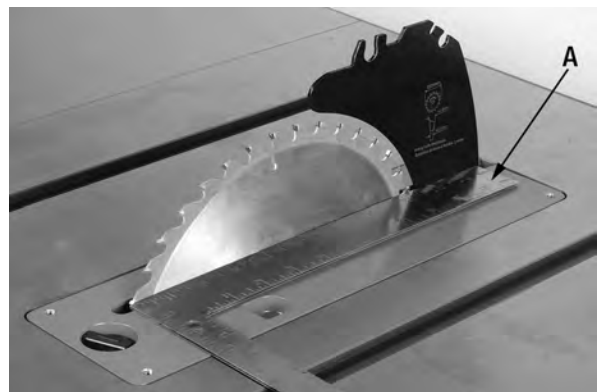

FIGURE 31
- 3) Place a straight edge (A) Fig.31 on table so it rests against blade and riving knife. Rotate blade so that top of blade tooth touches straight edge.